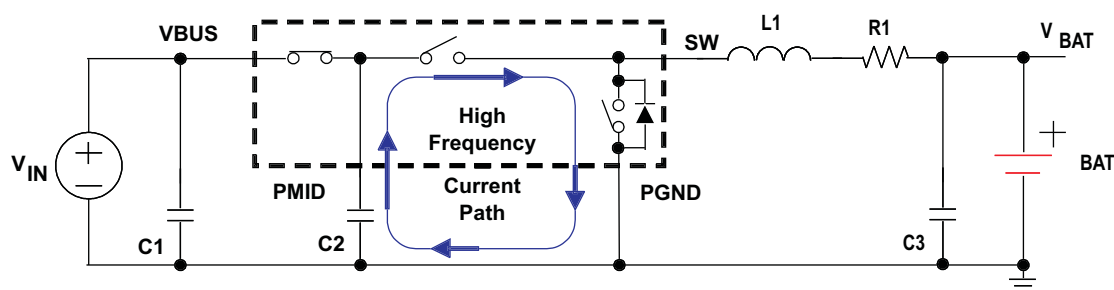
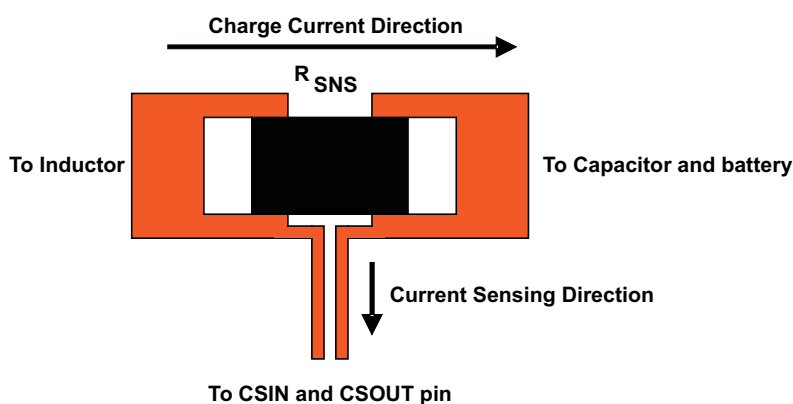

Figure 38. High Frequency Current Path
Figure 39. Sensing Resistor PCB Layout
4. Measured efficiency and total power loss with different inductors are shown in Figure 37. SW node and inductor current waveform are shown in Figure 38.
- To obtain optimal performance, the power input capacitors, connected from input to PGND, should be placed as close as possible to the bqTINYSWITCHER. The output inductor should be placed close to the IC and the output capacitor connected between the inductor and PGND of the IC. The intent is to minimize the current path loop area from the SW pin through the LC filter and back to the PGND pin. To prevent high frequency oscillation problems, proper layout to minimize high frequency current path loop is critical. (See Figure 38.) The sense resistor should be adjacent to the junction of the inductor and output capacitor. Route the sense leads connected across the RSNS back to the IC, close to each other (minimize loop area) or on top of each other on adjacent layers (do not route the sense leads through a high-current path). (See Figure 39.)